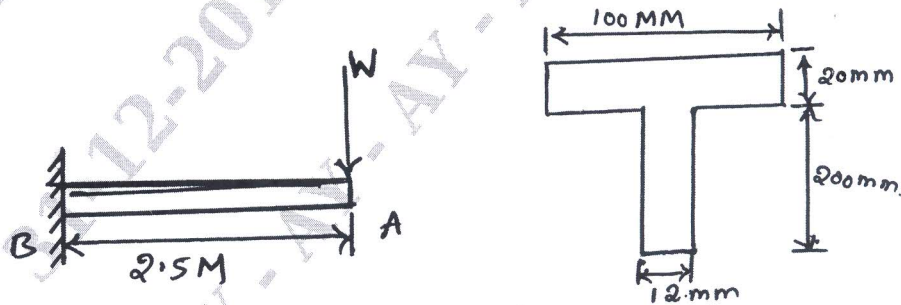

Fig Q3(b)
- b. A beam of 'T' section has a length of 2.5M and is subjected to a point load as shown in the Fig Q3(b). Calculate the compressive bending stress and plot the stress distribution across the cross section of the beam. The maximum tensile stress is limited to 300MPa. Calculate the value of 'W'.